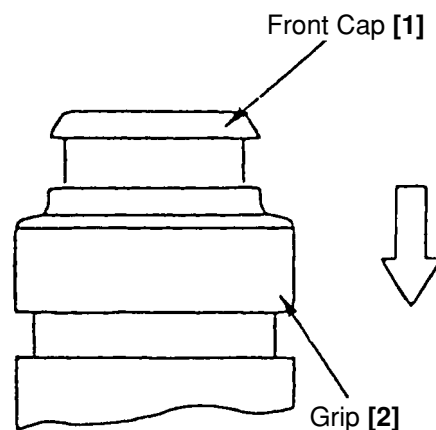

Fig. 8
(1) Disassembly of the Striking Mechanism Section
- Remove Spring (B) **[34]** from the end of the Gear Shaft Set **[35]**, and turn the Gear Shaft Set **[35]** so that the Piston **[30]** moves to its maximum upper position (inner cover side). The arm of the Reciprocating Bearing **[40]** can then be disconnected from the Piston Pin **[31]**, and the Gear Shaft Set **[35]** and the components mounted on it can be removed from the Inner Cover **[33]** as a unit.
- Move the Clutch **[38]** to the pinion side of the Gear Shaft Set **[35]**, and pull off the O-Ring (S-8) **[39]**. The Clutch Spring **[37]** and Washer (B) **[36]** can then be removed from the Gear Shaft Set **[35]**.
(2) Disassembly of the chuck section
As shown in Fig. 8, slide the Grip **[2]** in the direction indicated by the arrow mark, and remove the Front Cap **[1]**. The Grip **[2]**, the Ball Holder **[3]** inside the grip, the Holder Spring **[4]**, Washer (B) **[5]** and the Steel Ball D7.0 **[18]** can then be removed from the Cylinder **[20]**.